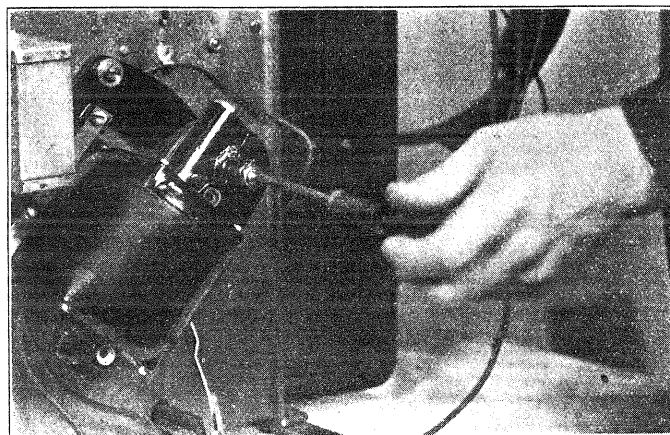

Figure 9—Adjusting Turntable Spindle Height
- (a) *Improper Turntable Spindle Height*—The height of the turntable spindle nose should be $\frac{1}{2}$ " above the inside bottom surface of the record magazine. Adjustment of this height made by means of the screw at the bottom of the motor. (See Figure 9.)
- (b) *Turntable Spindle Shaft Too Low*—This condition will cause binding between the pawl carrier and the clutch wheel. Raise the spindle as shown in Figure 9.